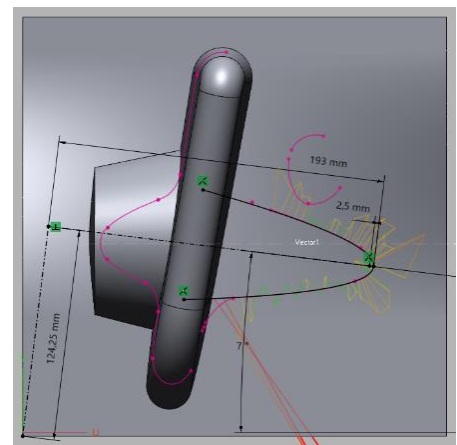

Figure 490
- **Accept** the sketch setup and create the dimensioned sketch shown in **Figure 490**.